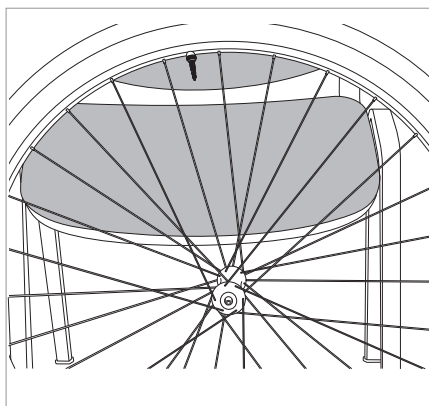

Fig.17
- Prop up the wheel, holding it in a vertical position with the valve on the uppermost point (Fig.17).